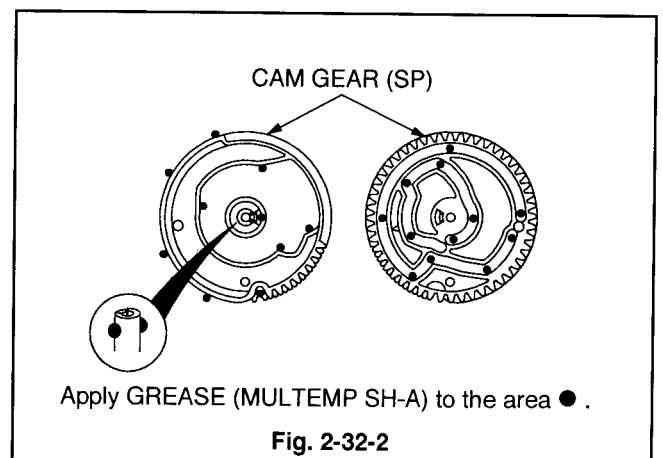

Fig. 2-32-2
- 1 Apply GREASE (MULTEMP SH-A) [859D055O80] to the area specified in Fig. 2-32-2 on the new CAM GEAR (SP).